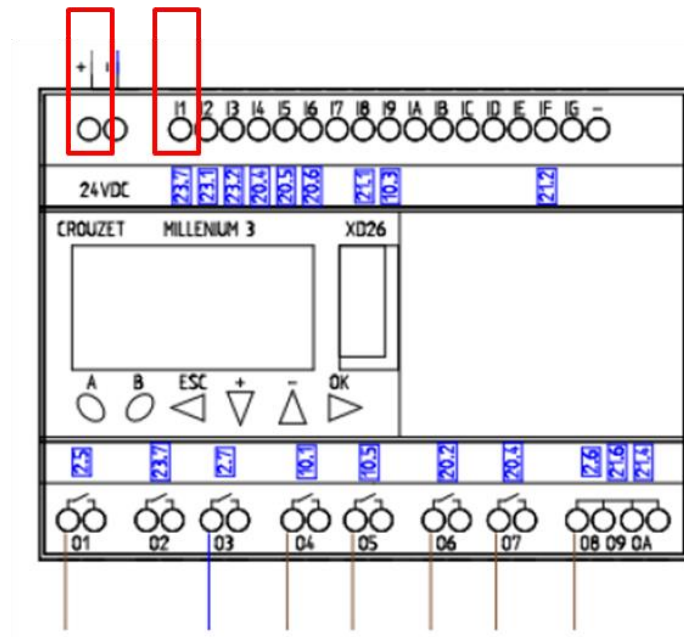

Figure 17: Connection of external alarm input at Crouzet controller input 24VDC+ and Input 1.
- Connect extern alarm cable at following inputs at Crouzet controller: **24VDC+ and I1**. Please see Figure 17